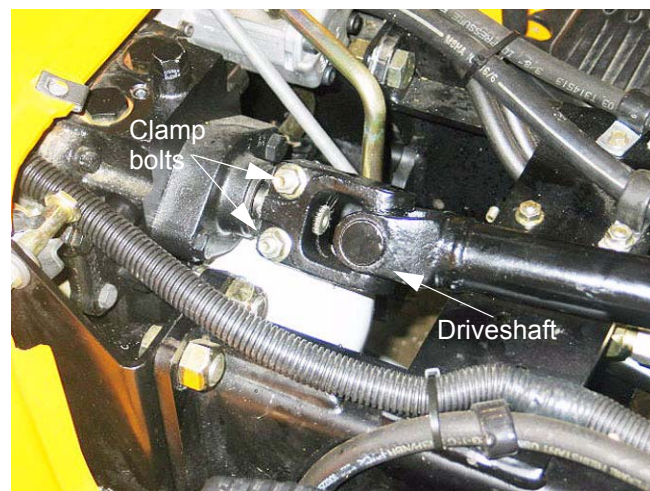

Figure 2.1
- 2.1. Loosen the two clamp bolts on the rear drive-shaft yoke using a pair of 9/16" wrenches. See Figure 2.1.